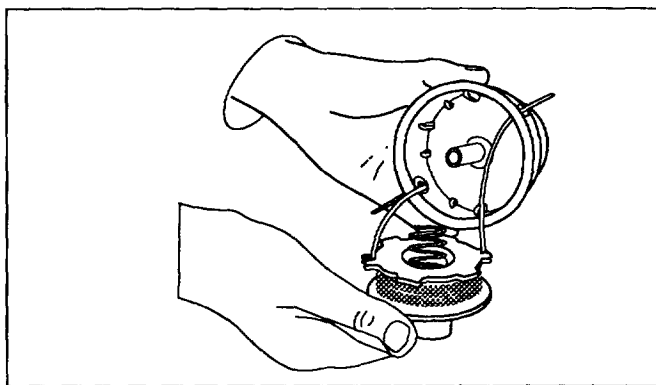

Fig. 19
1. Insert the ends of the line through the eyelets in the outer spool (Fig. 19). While holding the spool inside the reel, pull firmly on both lines to release them from the holding slots in the spool. Continue holding the reel inside the spool.